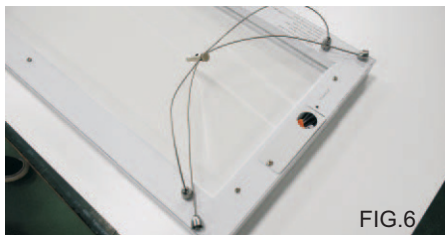

FIG.6
2. Combines the two suspension wires and tighten one suspended kits screw nut with panel screw, another one to the next luminaire. Connect top side on the ceiling (FIG.6).